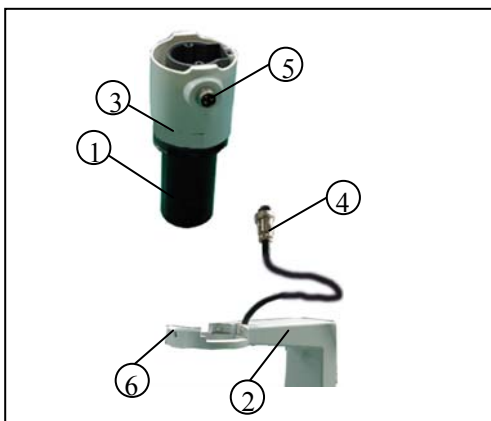
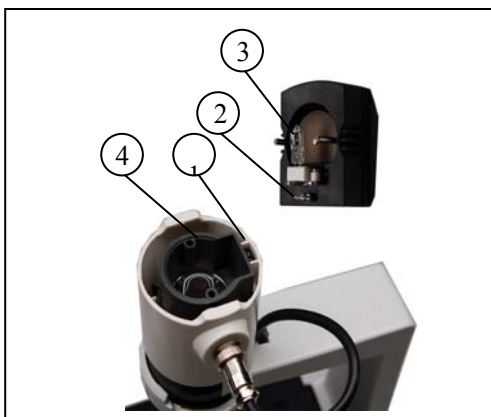

Figure 4
Figure 5
**2-2-2 Installing the condenser illumination unit (figure 4)**
1. Insert the condenser illumination unit① into the bracket② gently, according the figure showed in the left.
2. Turn the condenser illumination unit at clockwise about  $90^{\circ}$  , let the “AS” mark of filter holder ③ facing forwards, and keep the screw of condenser illumination unit and the hole of the holder in line, then screw down the bolt in the hole with the supplied hexagon spanner.
3. Insert aviatic BNC connector plugs④ into aviatic BNC connector jack⑤.
**2-2-3 Installing the lamp house (figure 5)**